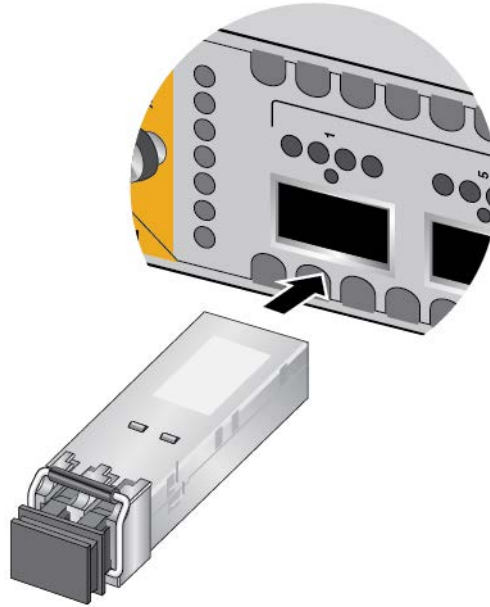

Figure 133. Installing 40G Fiber Optic Transceivers in AT-XEM2-4QS Line Cards
- ❑ 40G transceivers in AT-XEM2-4QS Line Cards - refer to Figure 133.